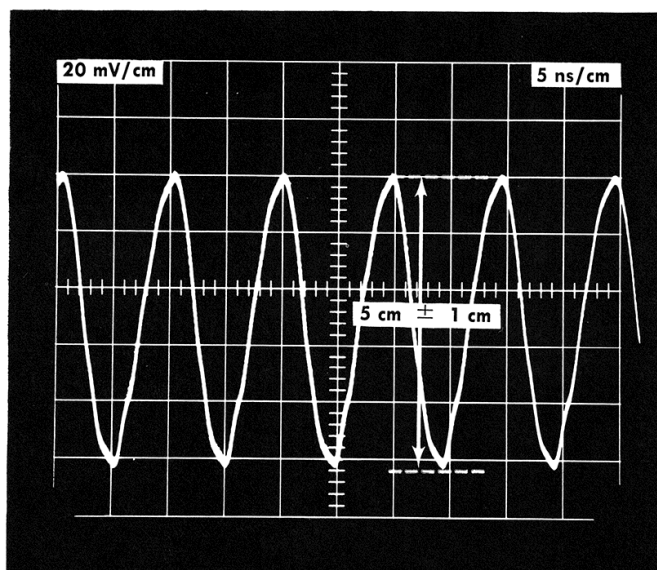

Fig. 5-7. Typical display for checking Sine Wave Period amplitude.
f. Set the Trigger Level and positioning controls for a stable sine wave display; see Fig. 5-7.